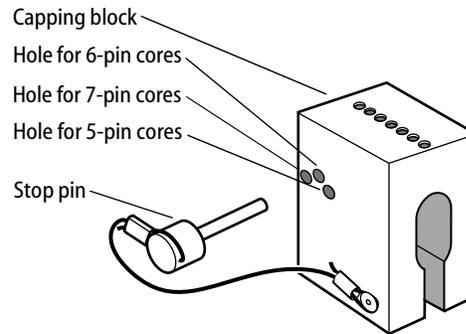

Figure 2 — Inserting the stop pin (capping block shown separately from the press).
- 2 Remove the stop pin from the capping block. See Figure 2.